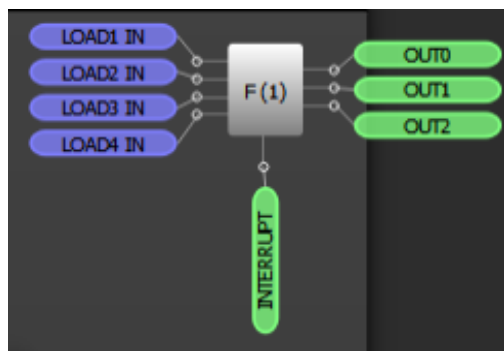

Figure 7: F(1) Block
| Figure 7: F(1) Block | 8 |
The computational macrocell (Figure 7) is a new component used to execute a predetermined sequence of actions during a state transition. This macrocell provides up to 4 different F(1) computations, each capable of executing up to 12 commands and holding 16 bits in its register. The list of available commands is shown in Table 1. Commands that specify a LOAD or OUT correspond to the configurable outputs of the F(1) block, shown in Figure 7.